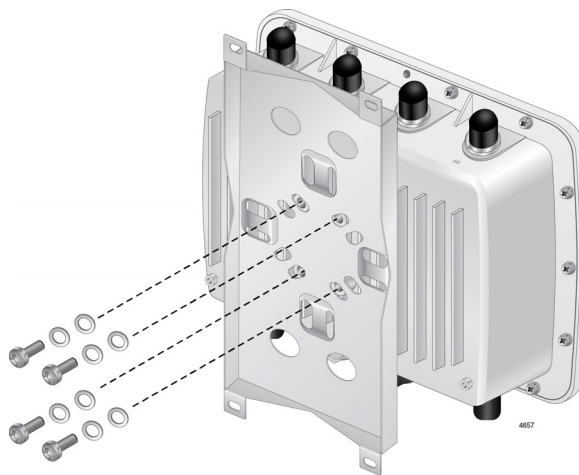

Figure 14. Attaching the Mounting Base to the Access Point
- Attach the mounting base to the access point with the screws using a Phillips-head screwdriver. See Figure 14.